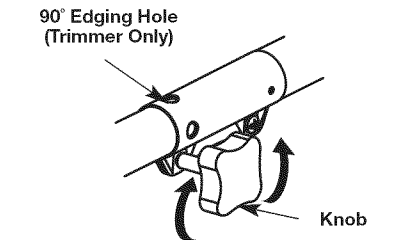

Fig. 5
1. Turn knob counterclockwise to loosen (Fig. 5).
3. Turn the knob clockwise to tighten (Fig. 5).
NOTE: When using the line trimmer or other attachment to edge, lock the attachment release button into the 90° hole (Fig. 5).
1. Turn the knob counterclockwise to loosen (Fig. 5).